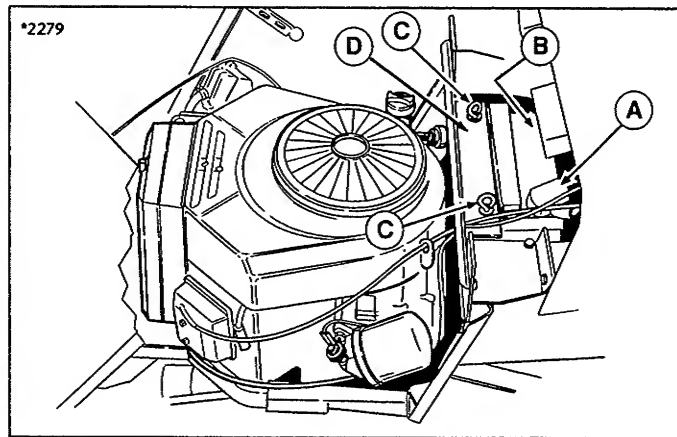

Figure 17. Battery
1. Open engine compartment to locate battery (figure 17). Disconnect the cables from the battery, negative cable first. A positive "+" sign is stamped on the battery next to the positive terminal.